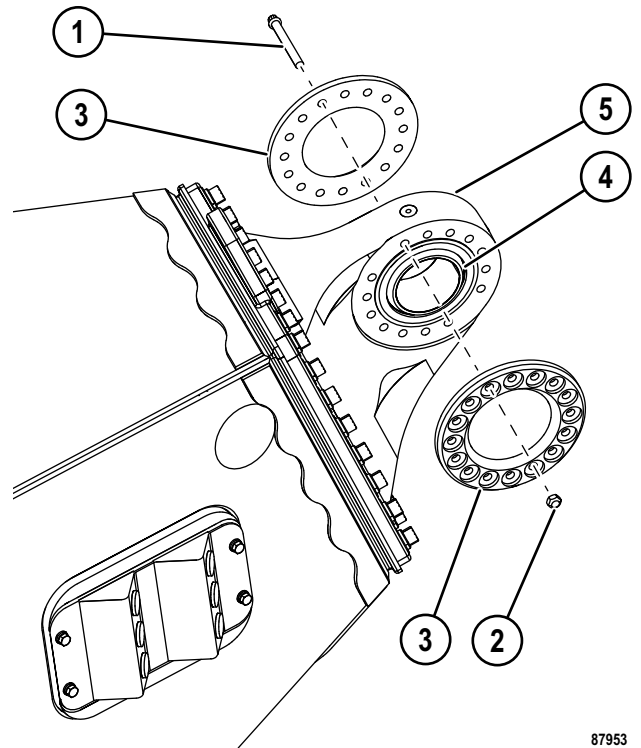

FIGURE 50-131. PIVOT EYE BEARING REMOVAL & INSTALLATION
2. Remove 12-point capscrews (1, Figure 50-131) and locknuts (2). There is a total of 16.
3. Remove bearing retainers (3).
4. Setup an appropriate tool to press spherical bearing (4) from pivot eye (5).